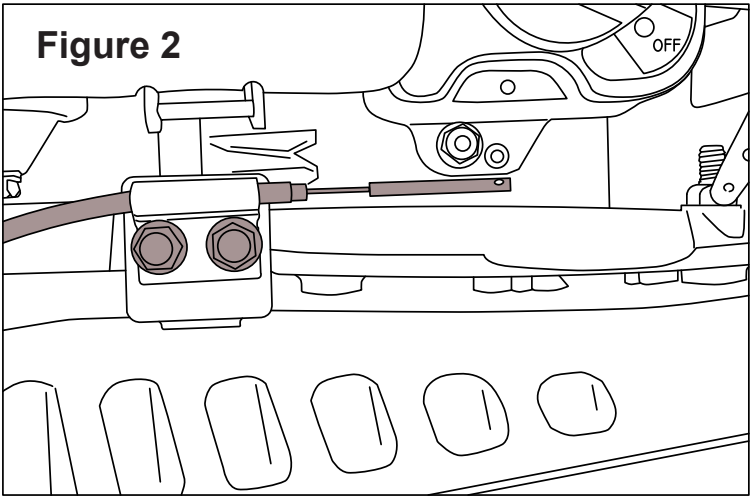
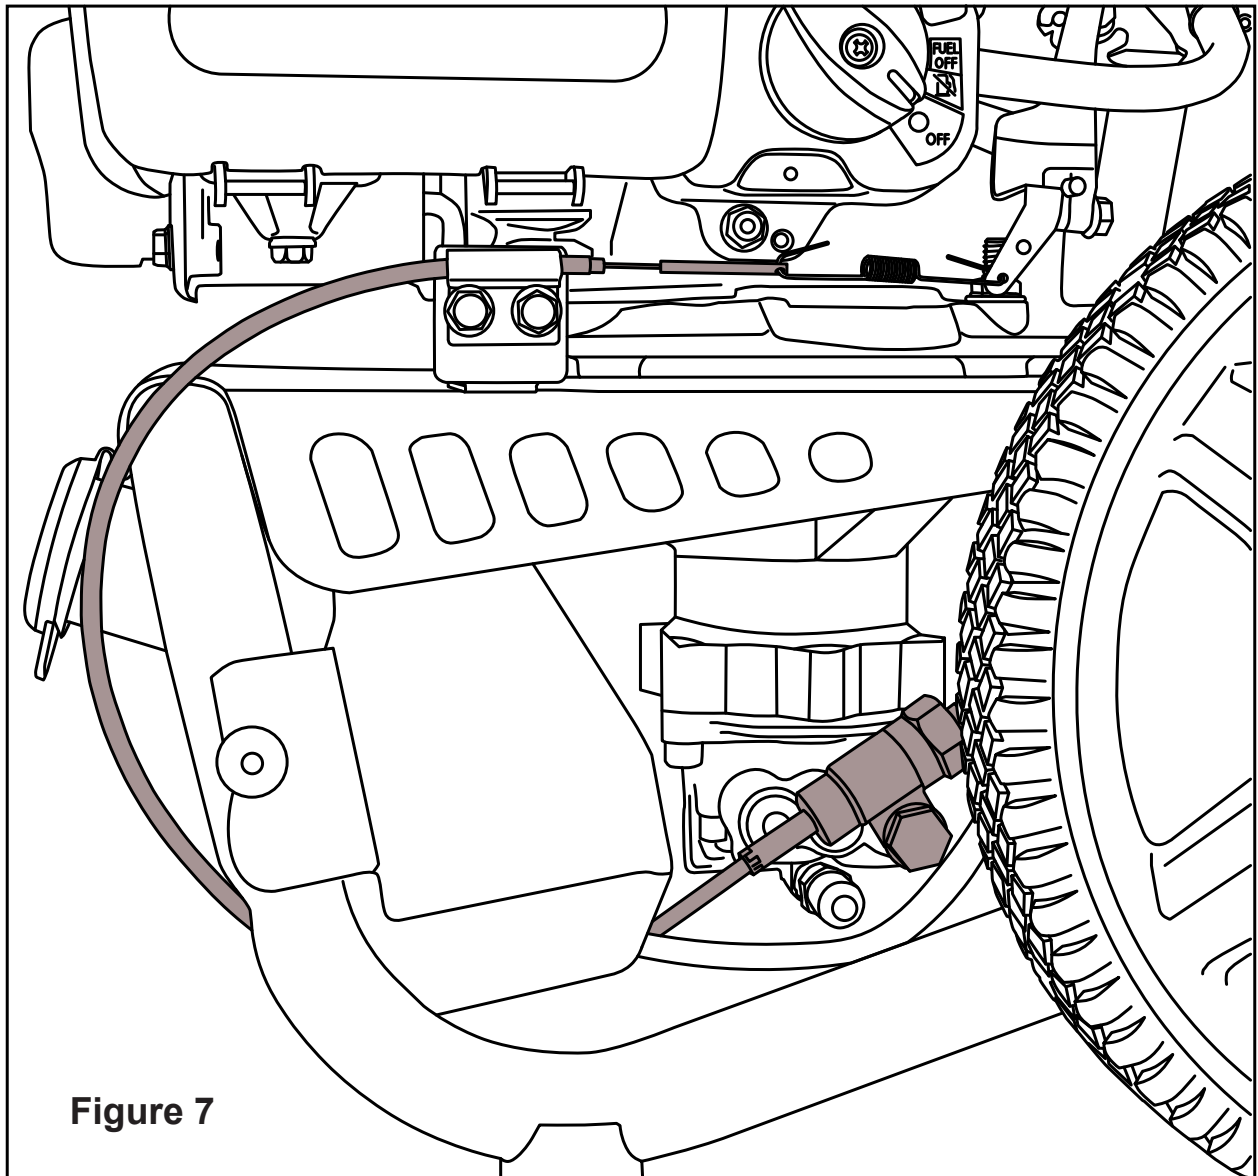

Figure 2
Figure 7
2. Use a 10mm socket and driver to loosen the idle cable bracket bolts then lift the cable out of the bracket. (Figure 2)
3. Route the idle valve cable in front of the soap tank and insert it into the cable retention bracket. (Figure 2) See Figure 7 for proper idle down cable routing.